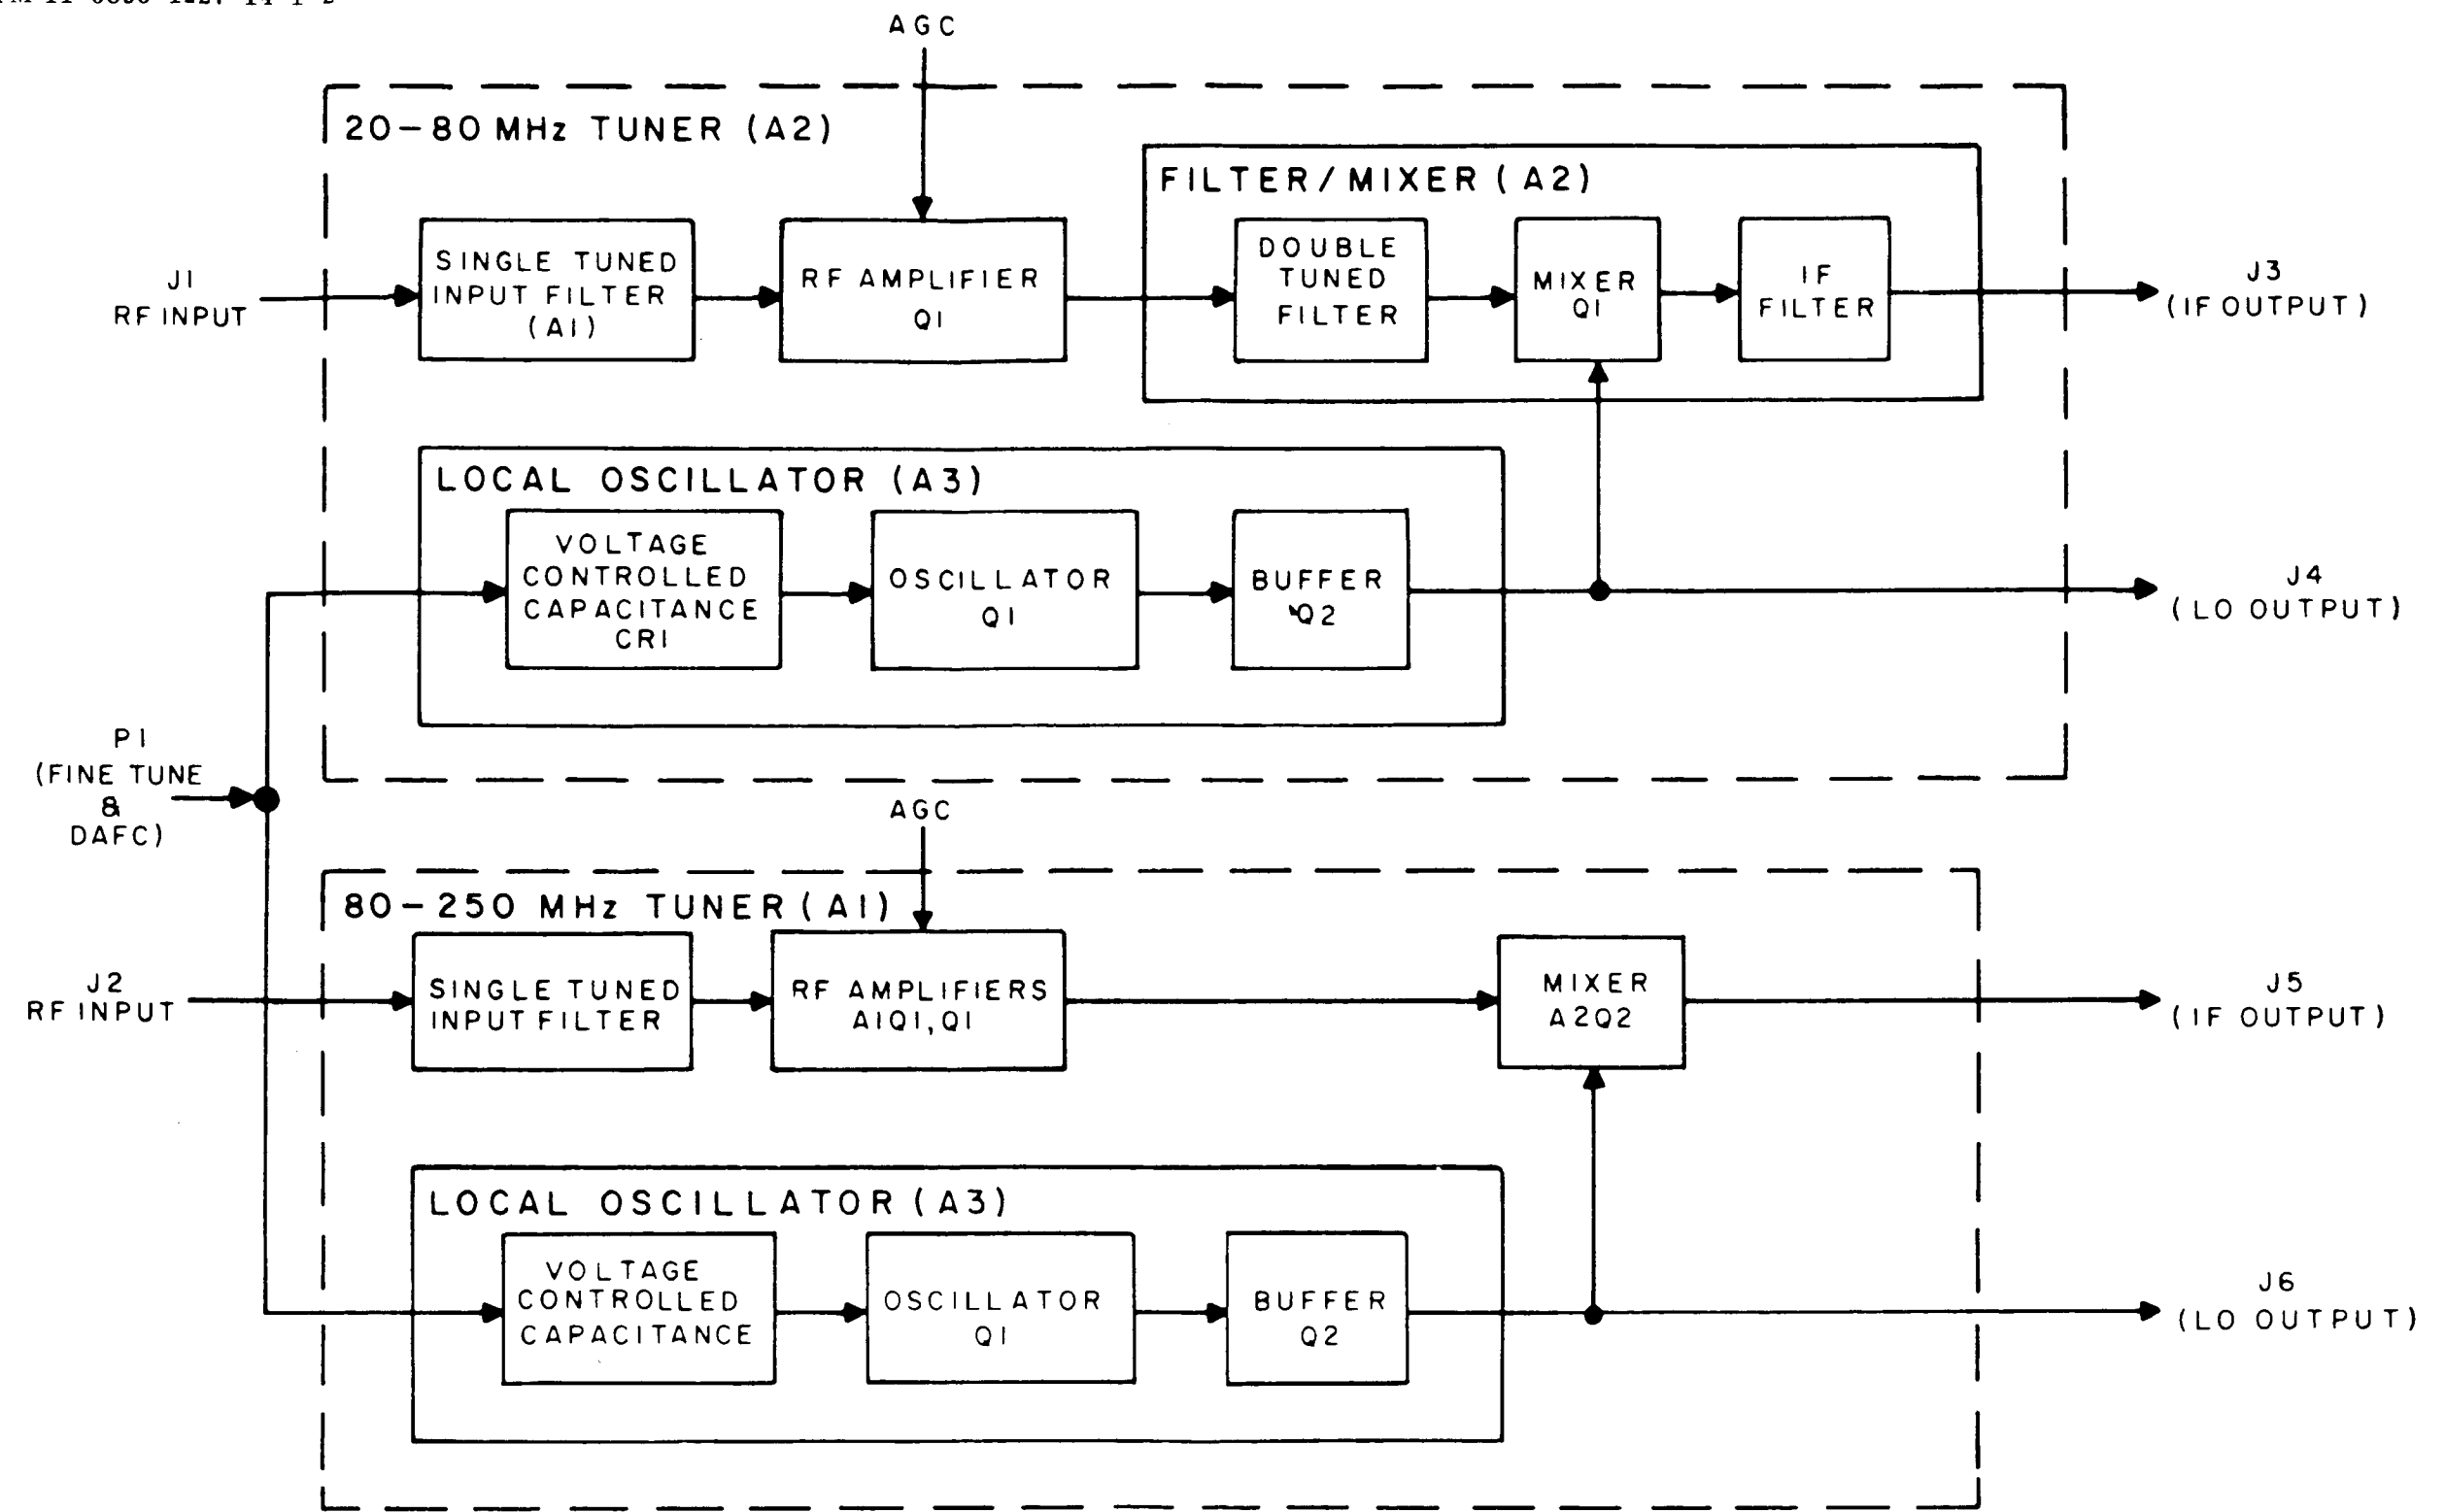

Figure 3-1. Type WJ-9121 Overall Functional Block Diagram
3.1.1 Operation of the circuitry found in the WJ-9121 Tuner Assembly is described in the following paragraphs. Figure 3-1 is an overall functional block diagram of the WJ-9121 and should be referred to along with the schematic figures indicated in the text. Note that the unit numbering system is used for electrical components, which means that parts on subassemblies and modules carry a prefix before the usual class letter and number of the item (such as A1Q1 and A3C1). These subassembly prefixes are omitted on illustrations and in the text except in those cases where confusion might result from their omission.